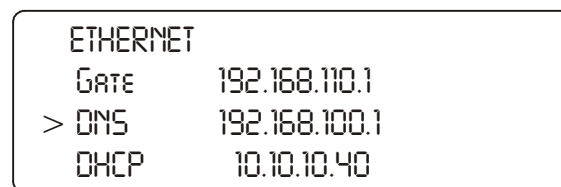

FIG. 301: ETHERNET SUB-MENU
- Press the Enter button. The Ethernet sub-menu appears. (See Fig. 301)
- Press the Down Arrow button until the cursor is in front of DNS. (See Fig. 301)